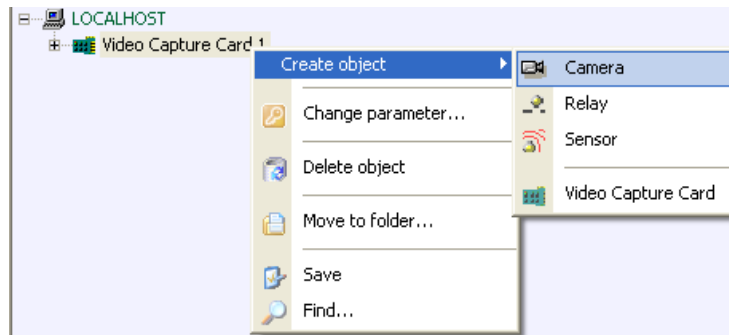

Figure 3.1-5 Context menu of the Video capture card object
1. Select **Create object** -> **Camera** in the context menu of the **Video capture card** object (Figure 3.1-5).